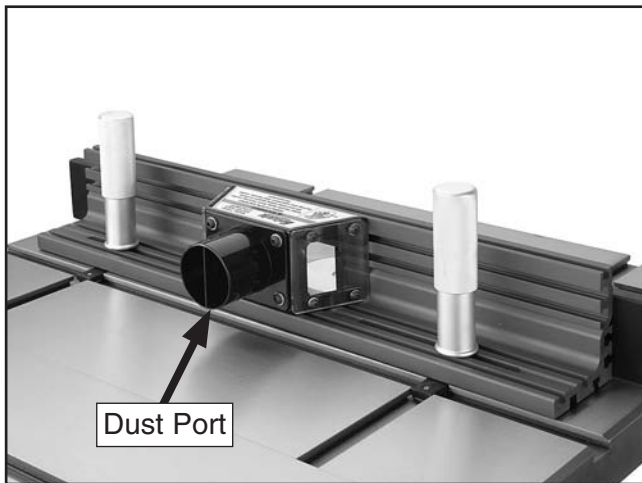

Figure 16. Dust port installed.
11. Attach the dust port to the back of the fence assembly with the (4) M6-1 x 10 cap screws and (4) 6mm flat washers, as shown in **Figure 16**.